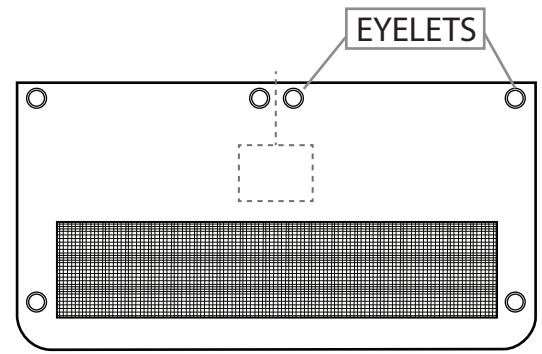

FIGURE 2
5. Place the mesh insert on a scrap piece of wood and cut the hole and slot using a sharp blade (see dotted line in Figure 2)